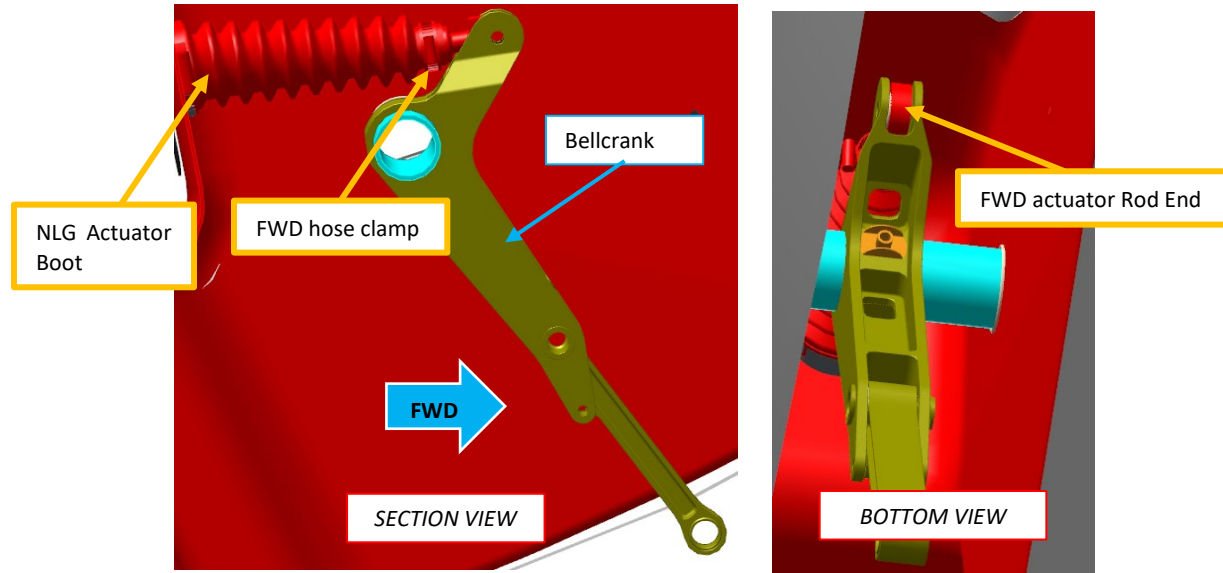

Figure 3 FWD Hose Clamp and Actuator Rod End
6. Retract Actuator enough to get access to Actuator Boot FWD hose clamp, see Figure 3.
7. Slide boot (see Figure 3) back to expose NLG actuator rod end.